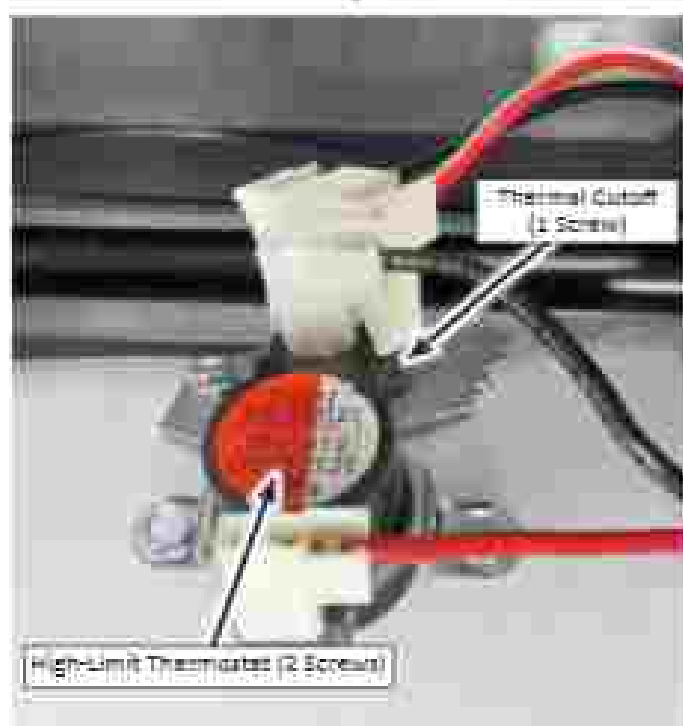

Figure 5 - See Barrier Thermostats
7. To remove the High-Limit Thermostat or the Thermal Cutoff (see Figure 5):
- a) Disconnect the two (2) wire connectors from the component terminals.
- b) Remove the two (2) screws from the High-Limit Thermostat, or the single screw from the Thermal Cutoff. Remove the component from the venturi.